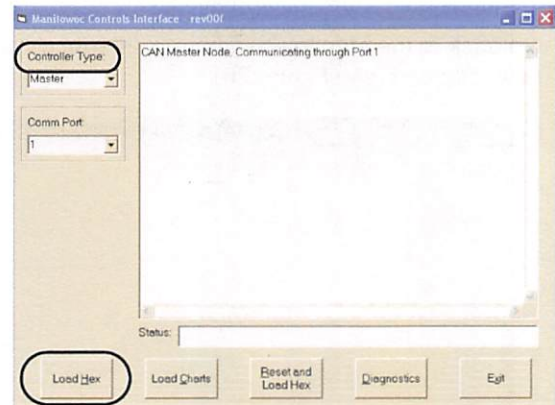
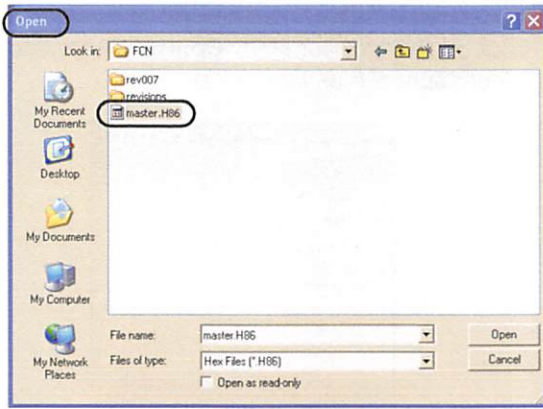

FIGURE 24
FIGURE 25
3. Manitowoc Controls Interface screen is displayed — **Manitowoc Controls Interface - rev00f or newer** (see Figure 24).
7. Select and press **Load Hex** button in lower left corner (see Figure 24). A screen will drop down called **Open** as shown in Figure 25.
8. Locate and click **Master.H86** icon to select file (see Figure 25). The hex file will now download the selected controller. The controls interface main screen will display **Process Complete/ Timed Out** when files are fully loaded and file closes automatically.